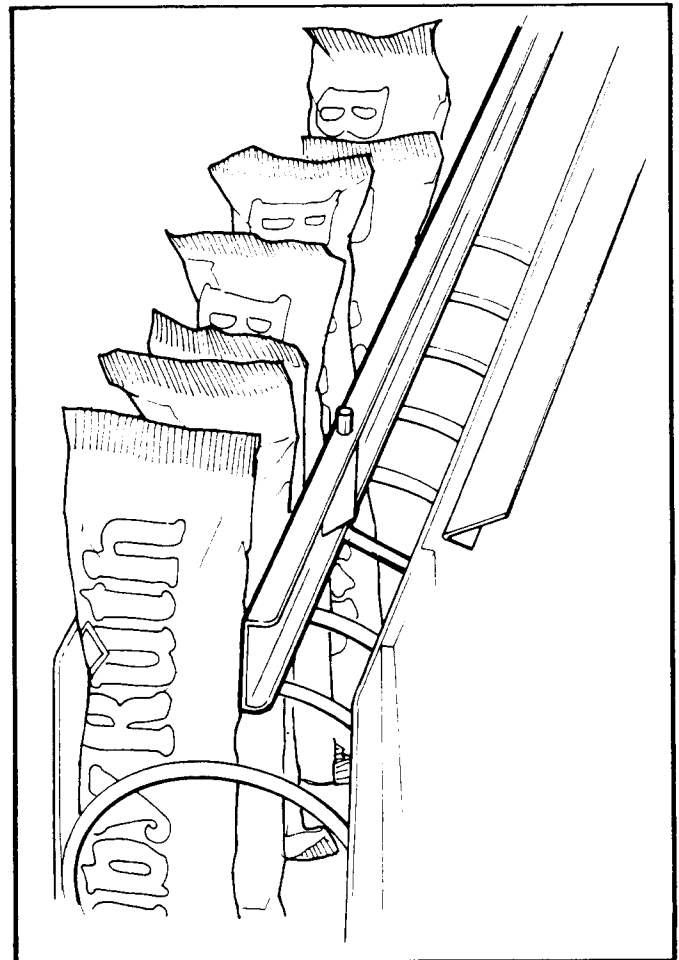

Figure 6. 10 SELECTION SHELF PRODUCT SPACER POSITIONED TO HOLD CANDY UPRIGHT.
8. **PRODUCT SPACERS—10 SELECTION SHELF:** The 10-selection shelves are equipped with a product spacer (see Figure 6) that can be pivoted from the right side of each product space. These spacers should be pivoted out to hold the product upright, but not tight against the product. Leave about 1/8" clearance between the spacer and the product.